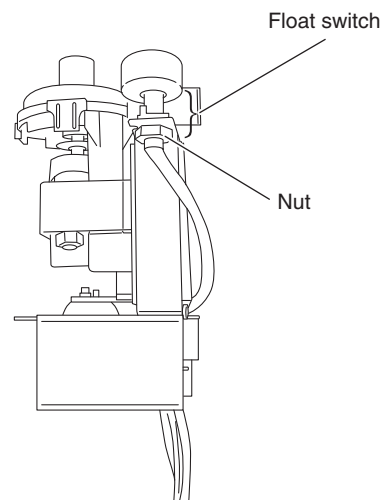

Fig.21
- (4) Remove a nut and remove the float switch. (Fig. 21)